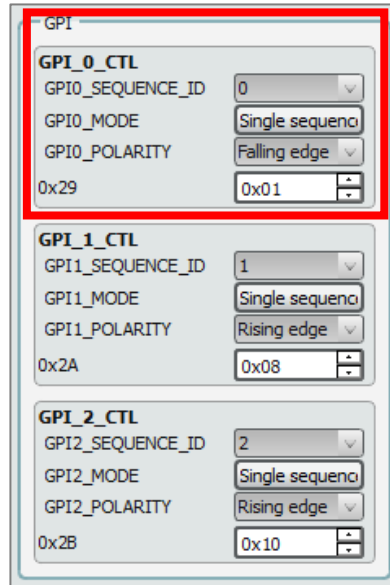

Figure 64. GPI_0_CTL settings
- Set the GPI controls as required for user defined operation. In this case **GPI0_POLARITY** is set to **Falling edge** triggered, and **GPI0_SEQUENCE_ID** is set to **0** (see Figure 64). On receiving a falling edge on **GPI_0** pin the first haptic sequence in the Waveform Memory will be triggered.